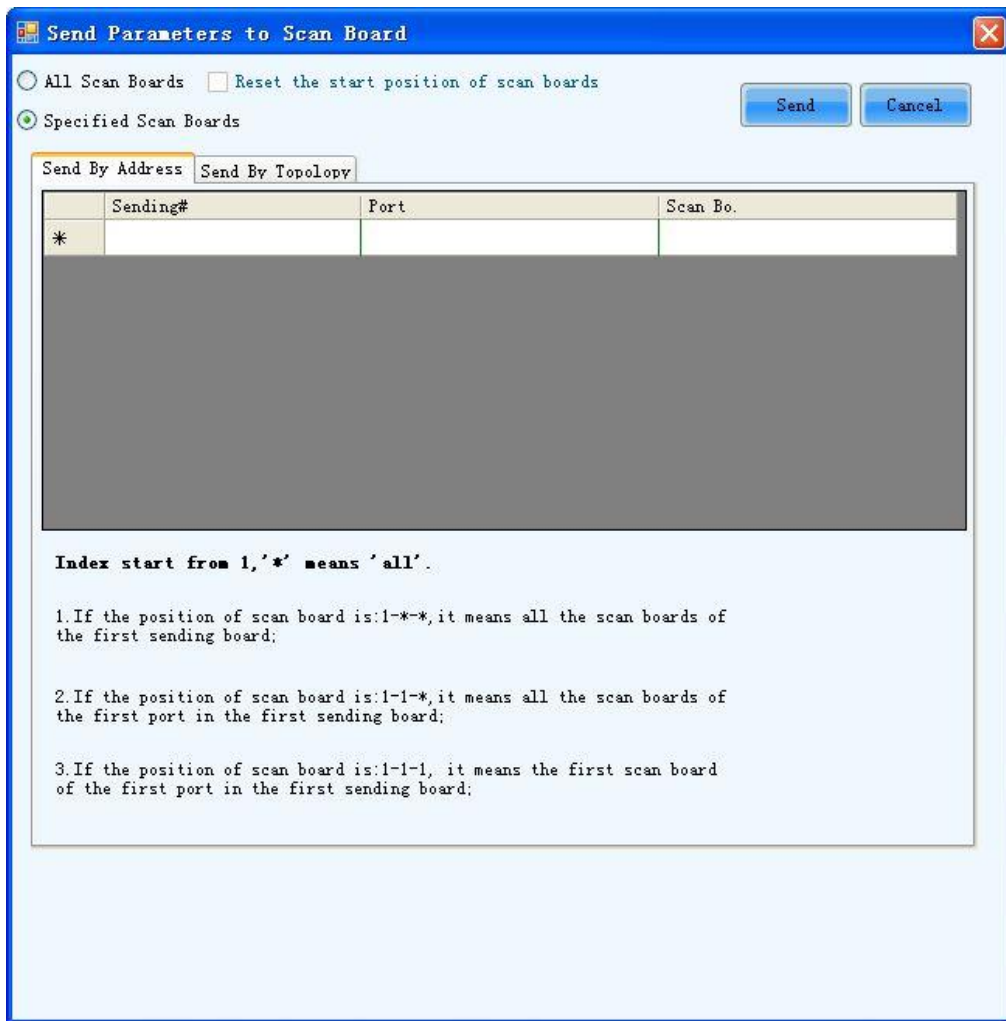
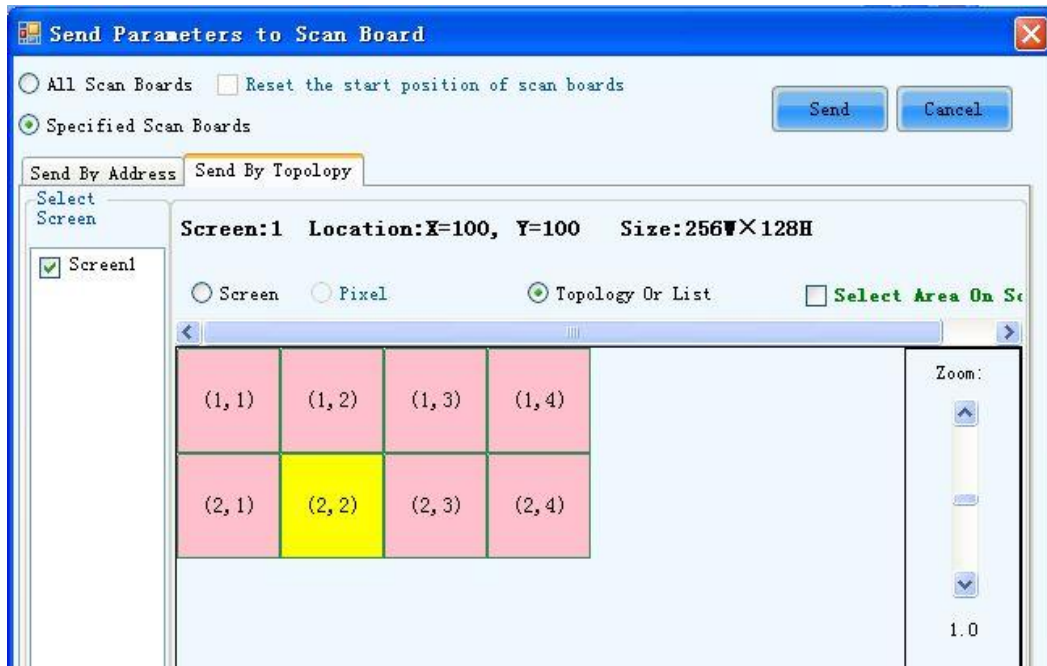

Fig. 5-35 The Send by Address page
Fig. 5-36 The Send by Topology page
Corresponding pages are shown in Fig.5-35 and Fig.5-36.
Shown in Fig.5-35 is the Send by Address page. The Sending#, Port and Scan Bo are used to specify the receiver cards to which the settings will be sent. Set these three parameters according to the instructions given at the lower half of the page.
Shown in Fig.5-36 is the Send by Topology page. The sketch of the receiver cards layout is shown in this page. Select the receiver cards from the sketch. To select multiple scan boards, press the left button and drag the mouse.
2. Ethernet ports of the same sending board can also be set as hot backup of each other. As in Fig.5-35, the Ethernet port 2 is the hot backup of the Ethernet port 1.